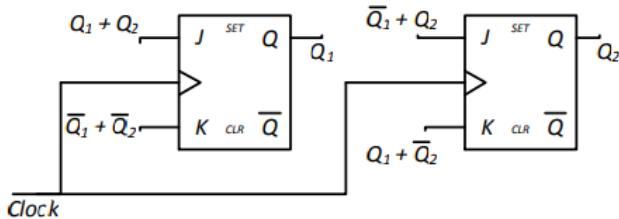

Fig. 5.32
33. A 2-bit synchronous counter using two J-K flip flops is shown in Fig. 5.32. The expressions for the inputs to the J-K flip flops are also shown in the figure. The output sequence of the counter starting from  $Q_1Q_2 = 00$  is